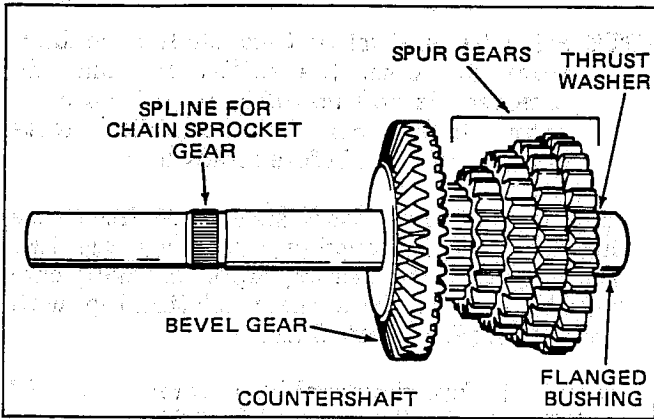

Figure 3-24
7. Remove the sprocket, bevel gear, spur gears, thrust washer, and flanged bushing. The spur gears are splined to the countershaft. See Figure 3-24.